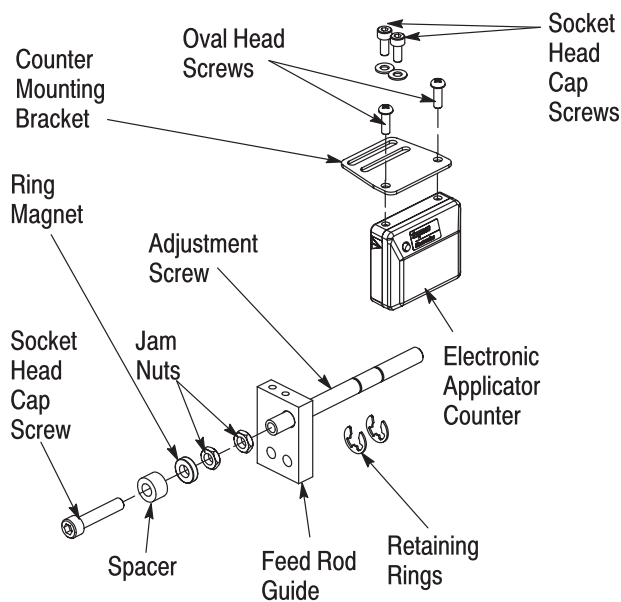

Figure 2
The kit (Figure 2) includes the electronic applicator counter, counter mounting bracket, ring magnet, adjustment screw, feed rod guide, and hardware for mounting the counter and ring magnet to the applicator.
8. Install the spacer and ring magnet onto the socket head cap screw and secure the magnet with a jam nut. Refer to Figure 2. Apply removable thread locking compound to the jam nut.